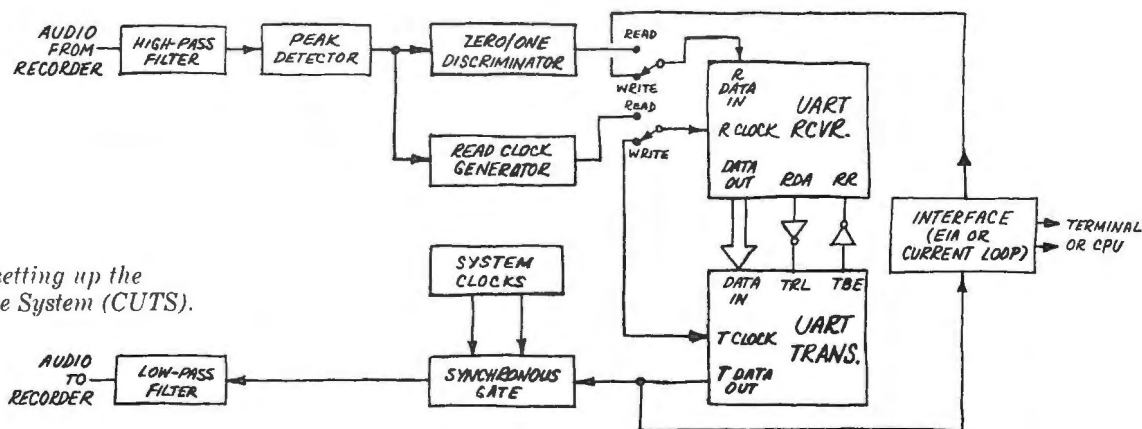

Fig. 2. One way of setting up the Computer Users Tape System (CUTS).
**Basic Circuit.** One suggested approach to mechanizing the CUTS system is shown in Fig. 2. In the write mode, data is accepted from a terminal EIA/current loop interface and converted from serial to parallel by the UART receiver. The parallel data is transferred to the UART transmitter when a complete data character is received. The UART transmitter then converts the signal to serial form to gate either a 2400-Hz tone for 1's or a 1200-Hz tone for 0's. The tones are then passed through an output filter which rounds off the waveform and reduces the output level to about 0.5-volt peak-to-peak. This signal is then passed to the tape recorder auxiliary (or microphone) input for recording on the cassette.